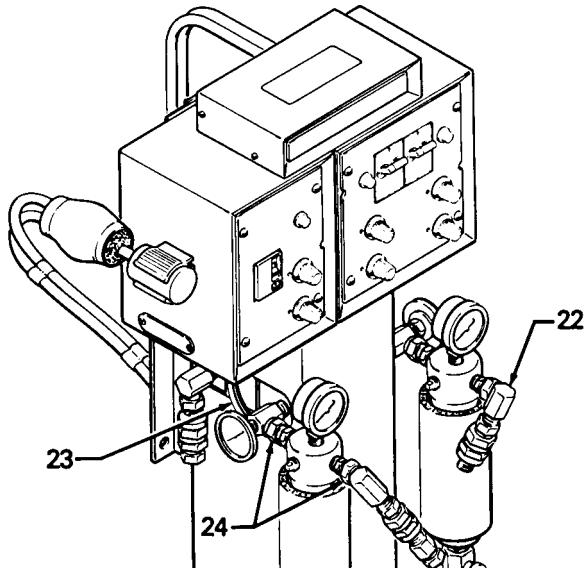

Figure 6
10. Connect the feed hose to the displacement pumps. Slide an identification band (ISO or RES) over the end of each feed hose (45). Connect a feed hose between the feed pump fluid outlet (46) and the 3/4" npt (f) fluid intake valve (202) of each displacement pump (48). Refer to the Typical Installation on page 5.
11. Remove the ATC Sensor (49) from the clamp (50) and locate it outside in air that is typical of the surface to be sprayed. The sensor has a 50' (4.6 m) cable. See Figure 6, page 8.
- a. Loosen the grounding lug locknut (55) and washer (52) located on the proportioning pump motor (48). Insert one end of a 12 ga (1.5 mm²) minimum ground wire (53) into the slot in the lug (54) and tighten the locknut securely. See Figure 6.
14. Install the Air Dryer drum fittings (56) in the 3/4" vent port of the corresponding drum of fluid. Close the shut-off valve (57) and connect the corresponding dry air hoses (58). Use only the special pin fitting (59) and coupler (60) to connect the dry air hoses to the drum fittings. Do not use additional lengths of dry air hose. See Figure 6.
- b. Tape the heat tape connectors to the air and fluid hose connectors' leave the wires free to move slightly to prevent strain on the wires at the connectors. See Figure 6.